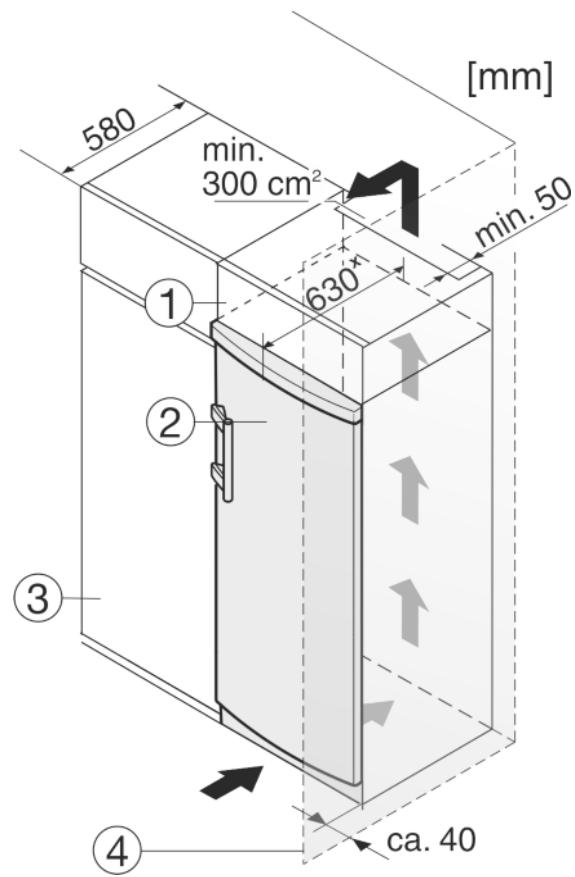

Fig. 10
- (1) Stack cabinet
- (2) Appliance
- (3) Kitchen cabinet
- (4) Wall
The appliance can be built into kitchen units. A top cupboard *Fig. 10 (2)* can be added above the appliance in order to bring the appliance *Fig. 10 (1)* up to the height of the fitted kitchen units.
When installing with kitchen units (max. depth 580 mm), the appliance can be positioned directly next to the kitchen cabinet *Fig. 10 (3)*. The appliance will project by 34 mm * at the sides and 50 mm * in the centre of the appliance in relation to the kitchen cabinet front.
If the appliance is installed with the hinges next to a wall *Fig. 10 (4)*, the distance between appliance and wall has to be at least 40 mm. This corresponds to the projection of the handle when the door is open.